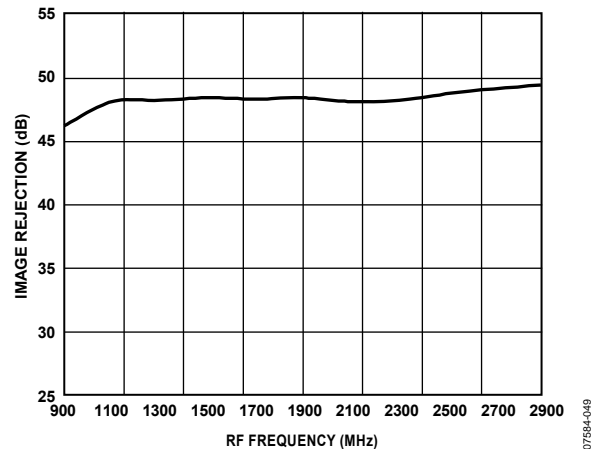

Figure 53. Image Rejection vs. RF Frequency
The image rejection ratio is the ratio of the intermediate frequency (IF) signal level produced by the desired input frequency to that produced by the image frequency. The image rejection ratio is expressed in decibels (dB). Appropriate image rejection is critical because the image power can be much higher than that of the desired signal, thereby plaguing the downconversion process. Amplitude and phase balance between the I/Q channels are critical for high levels of image rejection. Image rejection of greater than 47 dB was measured for the combined ADL5380 and the AD8366 for a 5 MHz baseband frequency, as seen in Figure 53. This level of image rejection corresponds to a  $\pm 0.5^\circ$  phase mismatch and a  $\pm 0.05$  dB of amplitude mismatch for the combined ADL5380 and AD8366. Looking back to Figure 7 and Figure 10, the AD8366 exhibits only  $\pm 0.05$  dB of amplitude mismatch and  $\pm 0.05^\circ$  of phase mismatch, thus implying that the AD8366 does not introduce additional amplitude and phase imbalance.